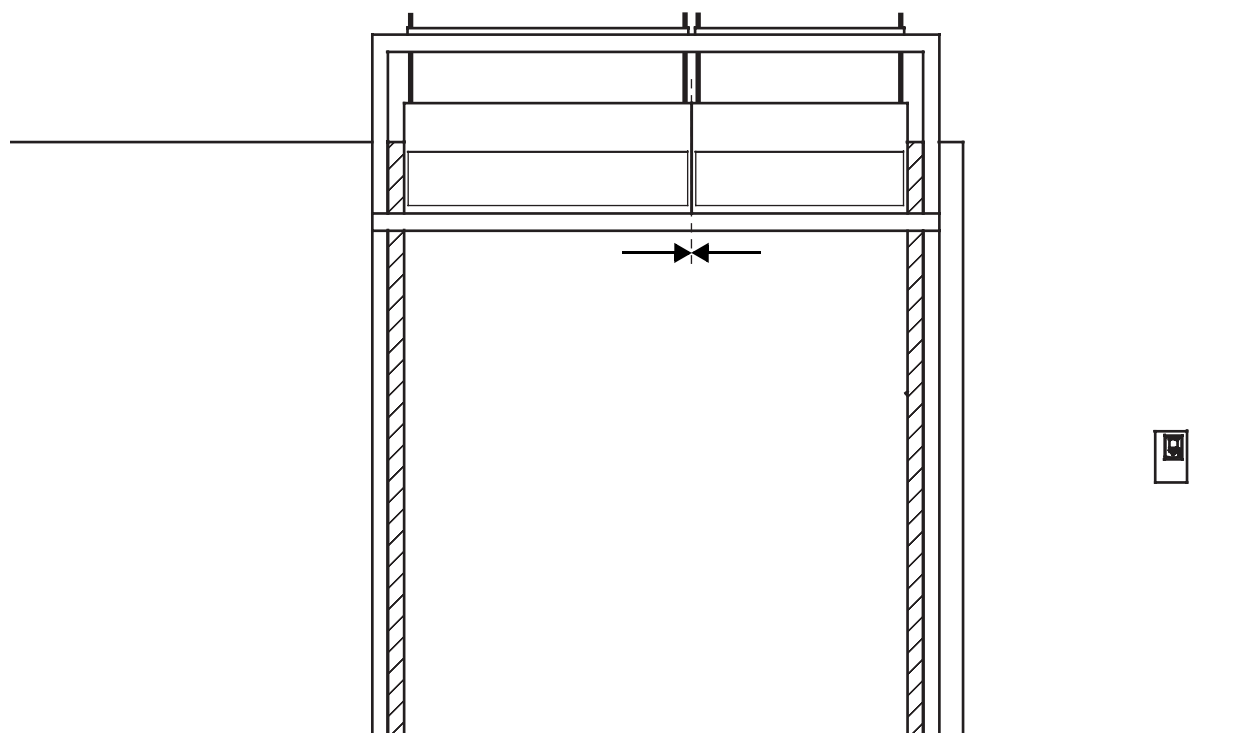

Figure 3-6 Correct placement of two air curtain units
- Position the units with their sides against each other, according to Figure 3-6.